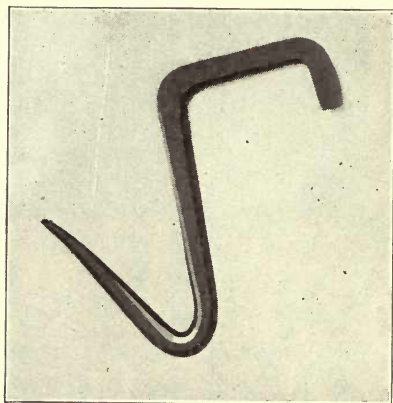

FIG. 22. MEAT HOOK.
6. Bend a 45-degree angle at A. Heat at A and then cool in water to within $\frac{3}{4}$ inch on both sides of the mark. Bend in the pritchel hole in the heel of the anvil, as in Fig. 21. Work quickly! Heat at the bend and hammer back the prong until it is shaped as in the drawing, and Fig. 22.